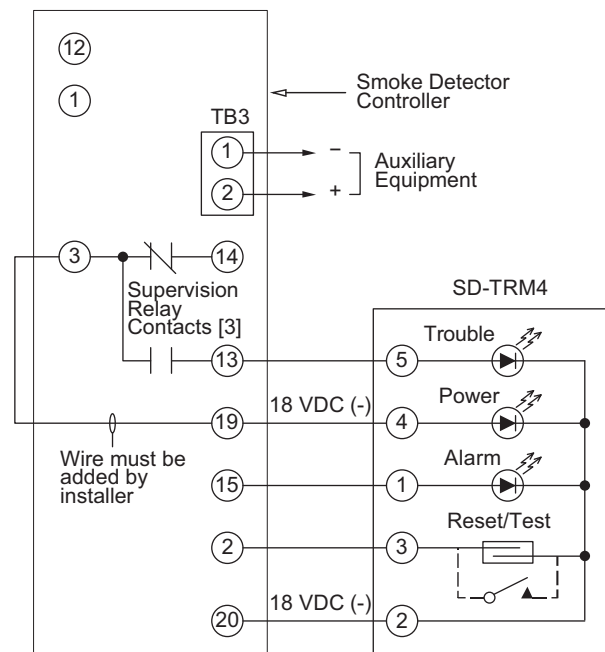

Fig. 41 — Remote Test/Reset Station Connections
The test/reset station dirty sensor test checks the test/reset station's ability to initiate a sensor dirty test and indicate the results. It must be wired to the controller as shown in Fig. 41 and configured to operate the controller's supervision relay. For more information, see "Dirty Sensor Test" on page 32.
1. Verify that the remote test/station is wired as shown in Fig. 41. Repair or replace loose or missing wiring.